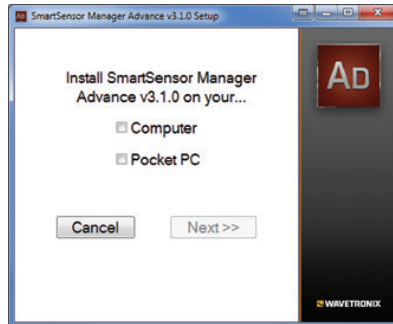

Figure 3.4 – Pocket PC Installation Program
- 3 Click the **Pocket PC** checkbox and then the **Next>>** button to install SSMA on a connected Pocket PC device (see Figure 3.4). If both the Computer and Pocket PC boxes are checked, the setup program will first install the SSMA software to the computer.